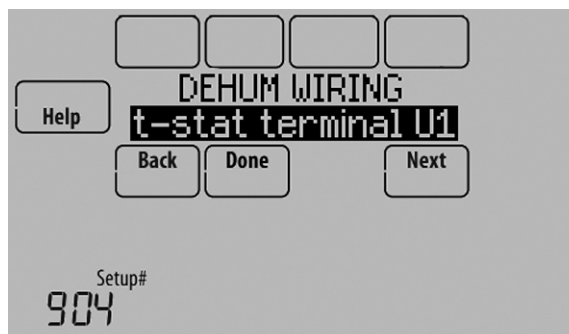

Fig. 213.
4. Select the terminals wired to the A/C with Low Speed Fan or Hot Gas Bypass. See Fig. 213.